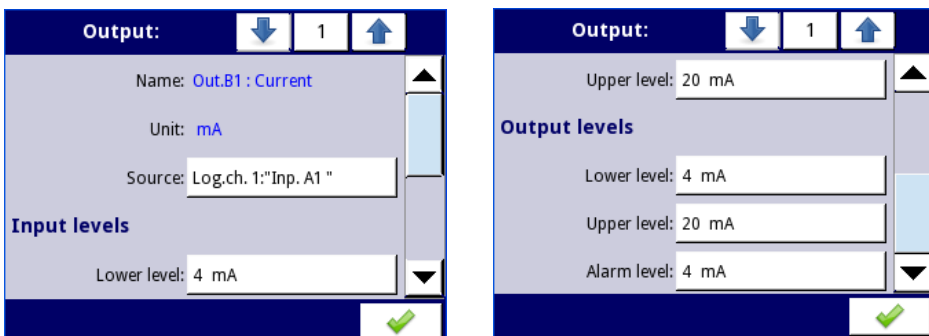

Fig. 7.95. Parameters of the **Passive current** output
- **Lower level** and **Upper level** - these parameters limit the range of the output signal, below this range the input signal will have a **Lower level** value and above this range the signal will have an **Upper level** value, the relationship between Lower and Upper levels is linear and it is limited by a defined range, see **Fig. 7.95**,